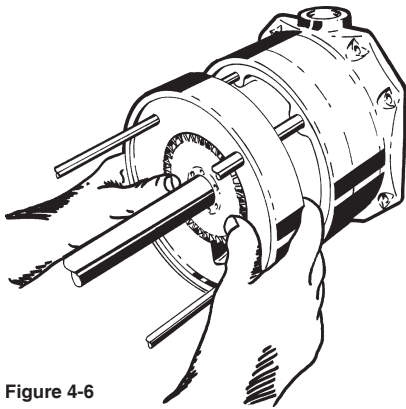

Figure 4-6
the impeller in place when it reaches the end of the shaft so it does not fall. Refer to Figure 4-6.
3. Remove the four (4) nuts (#20) from the guide rods (#18).
4. Remove the eight (8) nuts (#20) from the thru bolts (#19) located on the inlet cover (#1 or #1IN). Pull out the thru bolts.
7. Remove the four (4) guide rod "O"rings (#8).
11. Remove the next channel ring (#10) using the same care as with the first. The impeller (#11) will come off along with the channel ring. Do not attempt to pry the impeller off first, as prying will damage the impeller vanes. Hold the impeller in place when it reaches the end of the shaft so it does not fall. Refer to Figure 4-6.